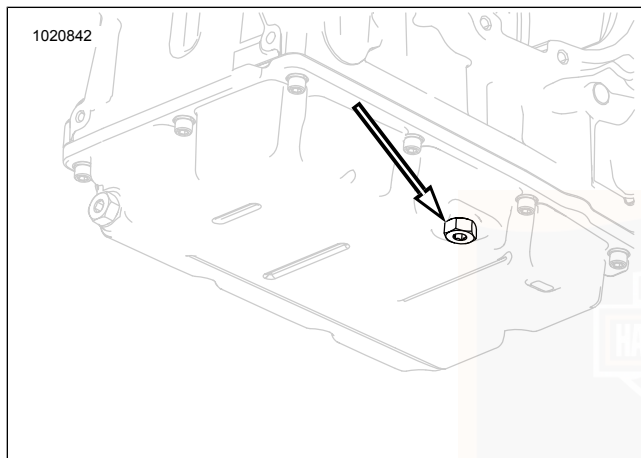

Figure 59. Transmission Drain Plug
2. See Figure 59. Remove transmission drain plug. Drain transmission.